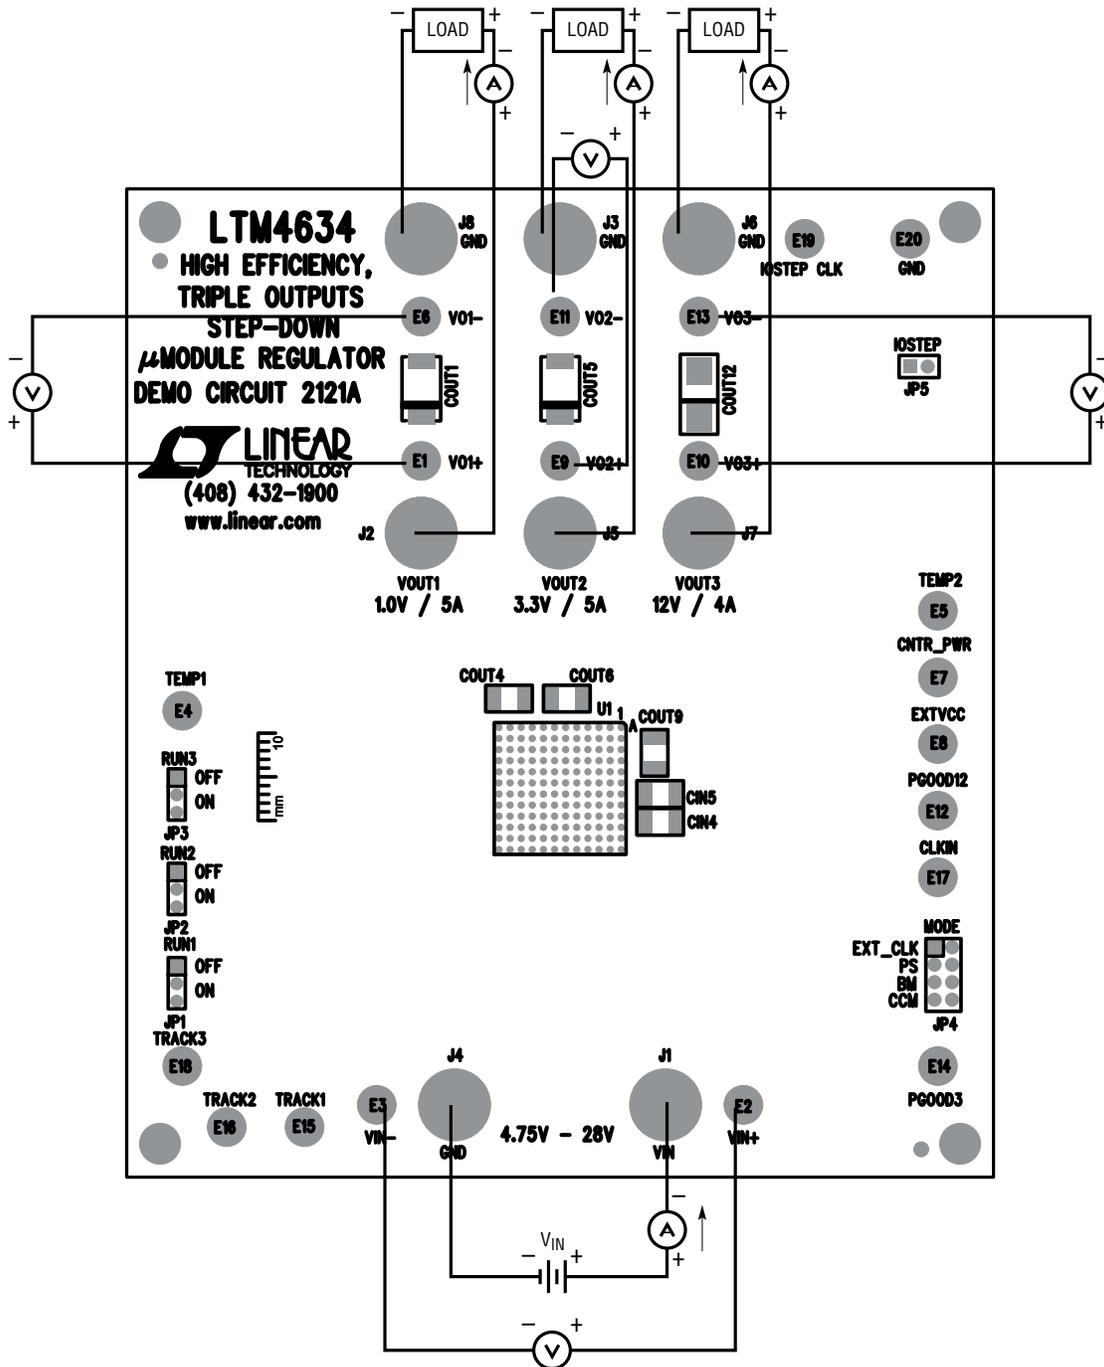

Figure 1. Measurement Setup of DC2121A
Demonstration circuit DC2121A is an easy way to evaluate the performance of the LTM4634. Please refer to Figure 1 for proper measurement equipment setup and follow the procedure below.
- With power off, connect the input power supply, loads and meters as shown in Figure 1. Preset the load to 0A and V_{IN} supply to 24V.